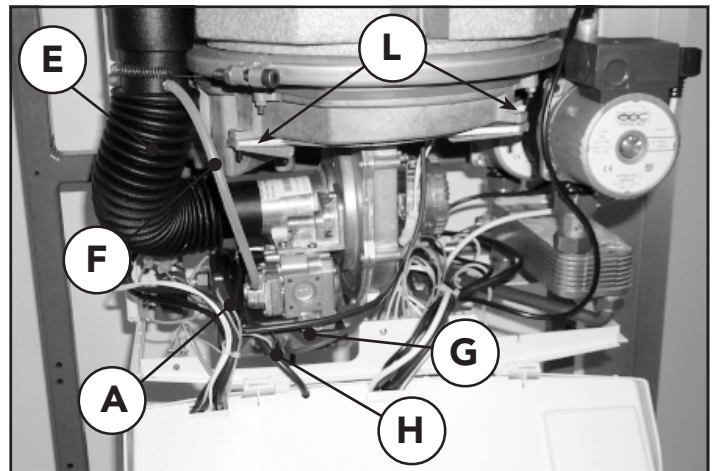

Fig. 23a
3. Disconnect cables "G" and "H" of the electrodes from the ignition devices, Fig. 23a